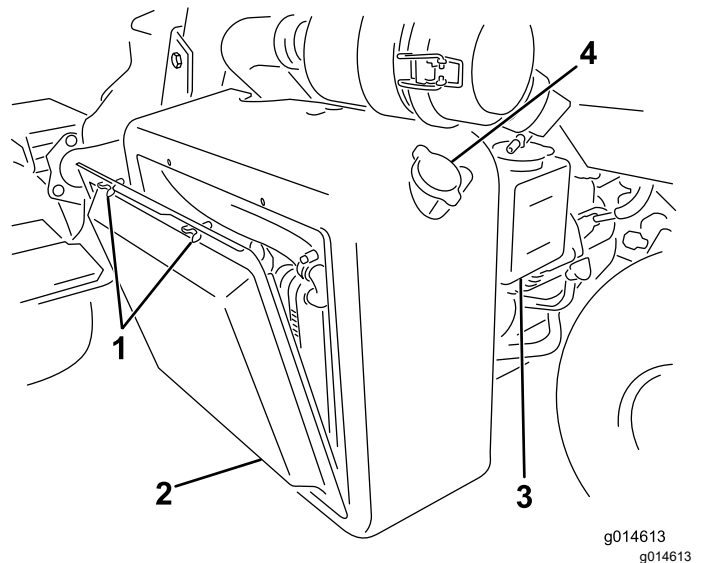
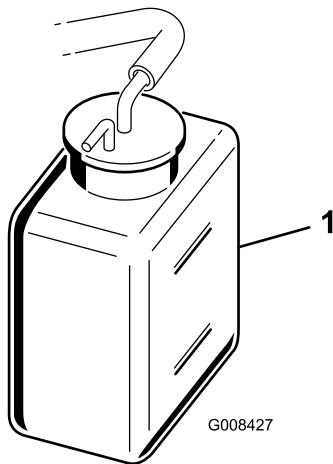

Figure 49
Figure 50
1. Remove the radiator screen (Figure 49).
2. Check the coolant level (Figure 49 and Figure 50).